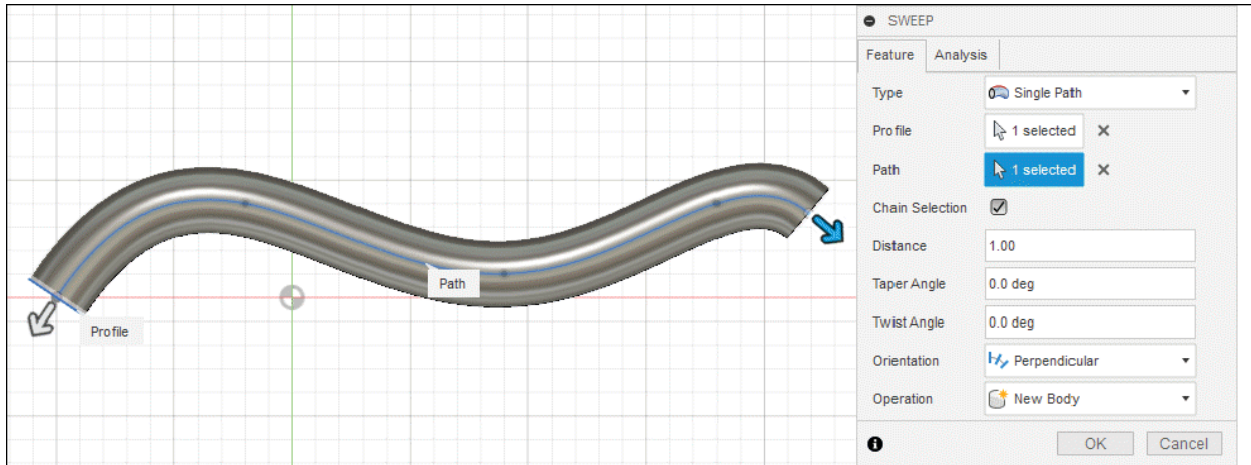

Figure-61. Perpendicular orientation
- **Perpendicular** option is the default selection of **Orientation** drop-down. This option creates the sweep feature in such that profile section is always perpendicular to the path. This allow more curvature on the path; refer to Figure-61.